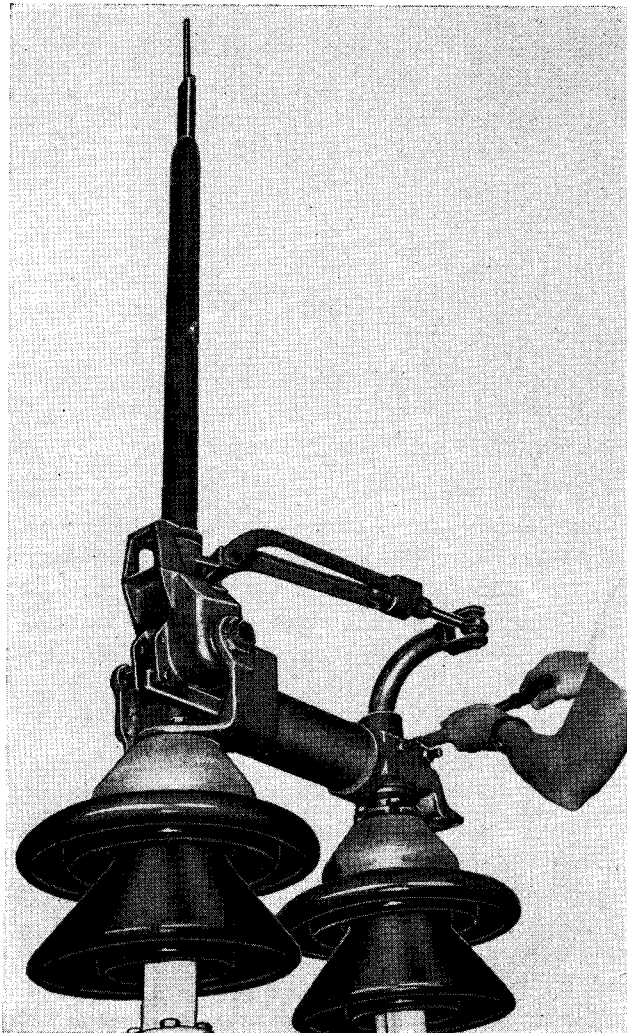

Fig. 3.
(C) The next step is to set the open position blade stop. (If these checks and adjustments are being made on the ground, the three pole units should be set side by side on a plane surface). Open all three pole units and stand back and sight along the three blades. The blade stops should be set so that the blades are lined up uniformly when in the vertical position. If the blades do not line up uniformly it will be necessary to readjust the vertical stops accordingly. Refer to Fig. 3 for location of this stop adjustment. The open position stop is the stud on the left when viewed from the side of the pole unit. Turning this stud in will cause the blade to move toward the break jaw. Screwing the stud out will allow the blade to be opened farther. When the
(D) The closed position stop, on the right hand side, see Fig. 3, should be set so that the blade tip can be turned over flat in the break jaw.